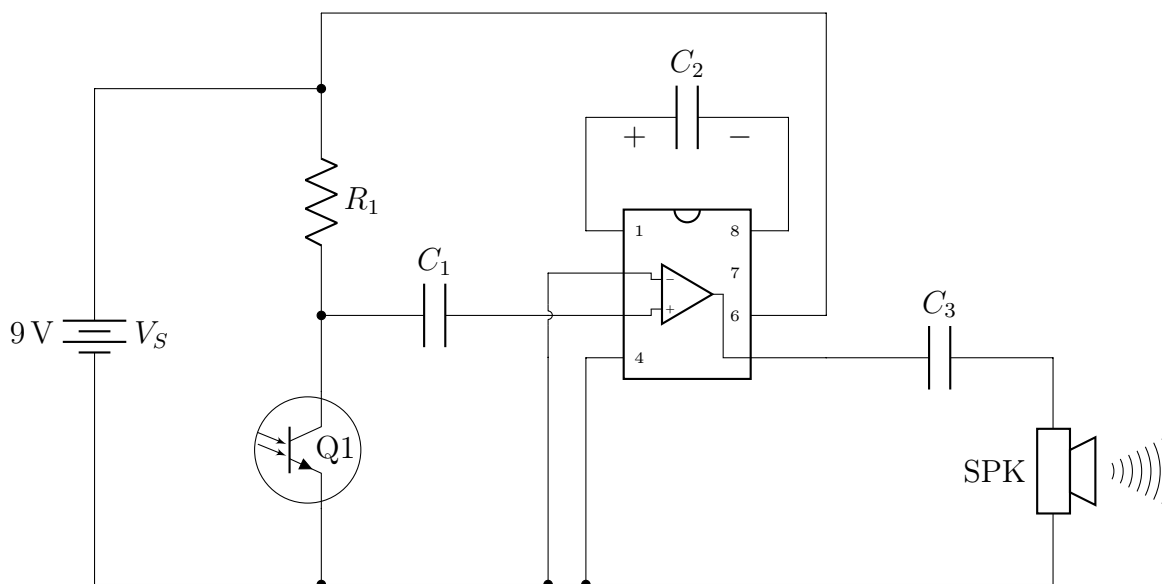

Figure 4: Music Receiver Circuit
The purpose of this exploration is to build a wireless signal transmitter using the knowledge of LEDs and Field-Effect Transistors you have gained in lab. The ultimate goal of this exploration is to build a simple electronic system that transmits music from a portable music player (e.g. MP3 player, CD player, radio), through a wireless channel using light. To do so, you will build a circuit that takes the electrical signal and changes the brightness of an LED with the sound of the music. A given receiver circuit using a phototransistor will take this light signal and convert it into sound. Your lab TA will provide a receiver for testing your circuit. You can also build your own receiver using the circuit in Figure 4.
1. Build the receiver circuit outlined in Figure 4. Keep in mind that the IR LED from the transmitter you just built will need to be positioned about 1/2" from the phototransistor in this receiver circuit.